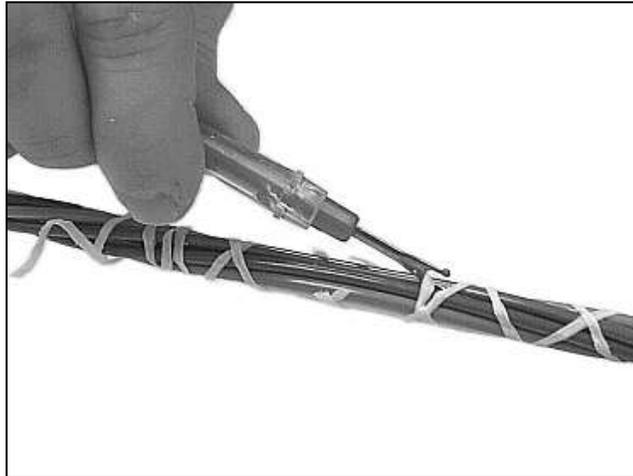

Figure 9 – Cut and remove binder threads.
4.9 For single jacket and *Option1* cables, use a seam ripper to cut and remove the binder threads from stranded buffer tubes (Figure 9). Cut the binder threads flush with the outer jacket. For *AccuTube* cables, use a seam ripper to cut the binder threads over the water blocking tape. Remove the binders and water blocking tape and cut flush with the outer jacket. Use a seam ripper to cut and remove the second layer of binder threads over the stranded core buffer tubes.